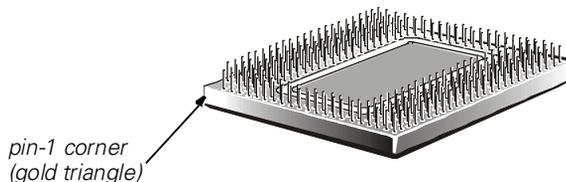

Figure 8-11. Pin-1 Identification
8. Align the pin-1 corner of the microprocessor chip (see Figure 8-11) with the pin-1 corner of the microprocessor socket.